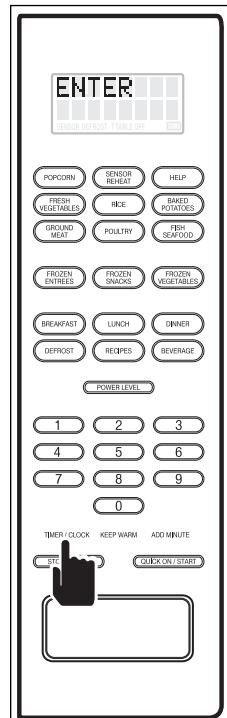

Figure 3-52.
4. Press the TIMER/CLOCK key and "ENTER - COOKING TIME" will flash on the display (See Figure 3-52).